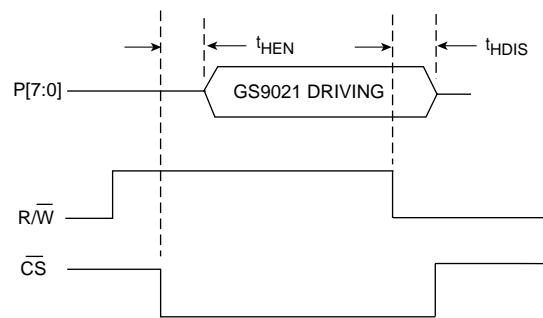

Fig. 8b HOSTIF Parallel Port Output Enable and Disable Times
- C) The GS9021 drives the P[7:0] bus when the R/\overline{W} pin is HIGH and the \overline{CS} pin is LOW. At all other times, the P[7:0] port is in a high impedance state. The host interface enable and disable times are shown in Figure 8b and are specified in the AC timing information. In this figure, the rising/falling edges of R/\overline{W} and \overline{CS} are not aligned to illustrate that the state of the P[7:0] I/Os is only a combinatorial function of the R/\overline{W} and \overline{CS} pins.